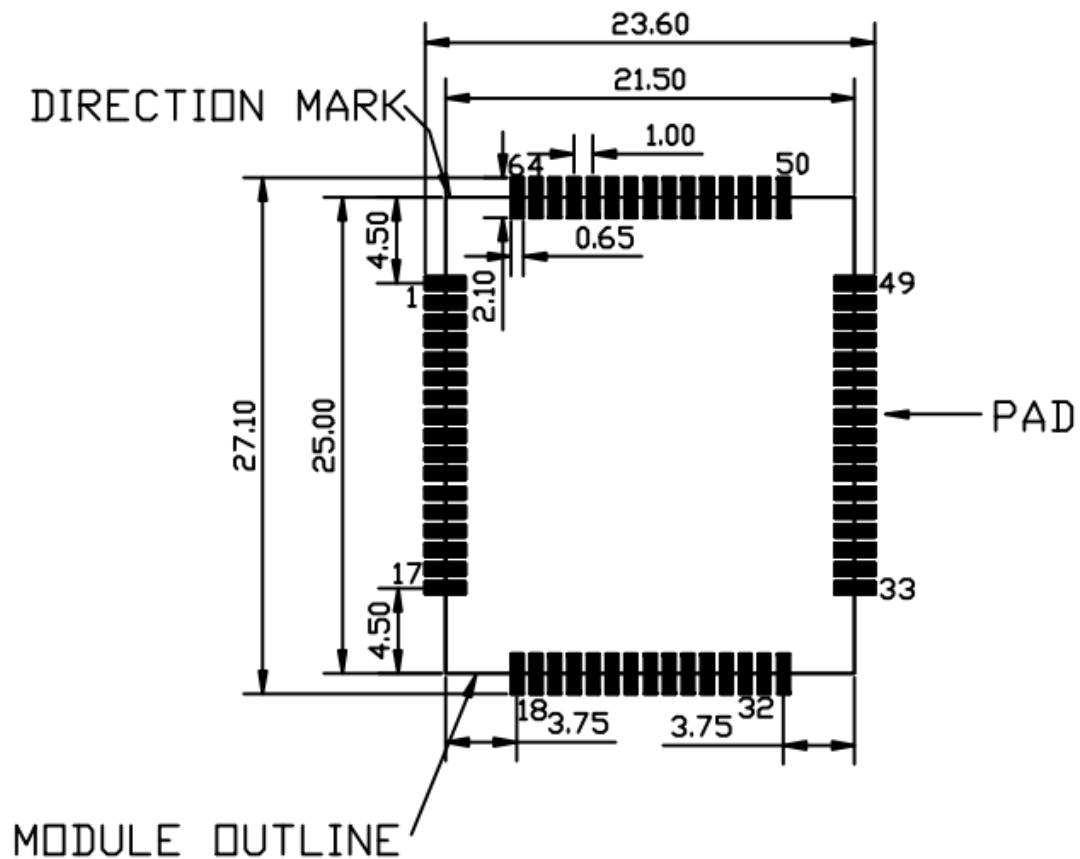

Figure 6-1 Steel mesh (unit mm)
- Module pad thermal welded steel mesh openings are recommended for reference. Figure 6-1 is recommended for steel mesh and size.